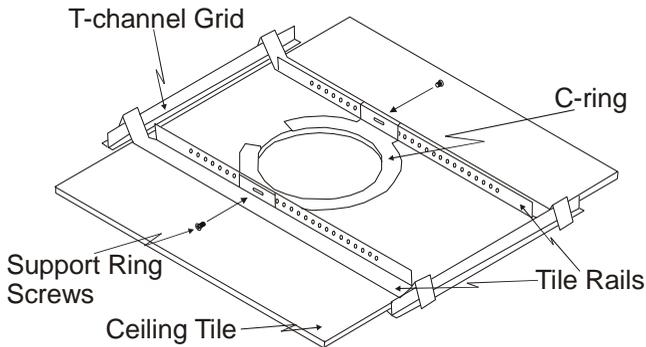

Figure 6: Installing the Open-back Ceiling Speakers
1. Place the C-ring over the hole cut in the ceiling tile (on the “ceiling” side). Place it around the hole so that the tabs are located in parallel to the tile edges (see Figure 6).